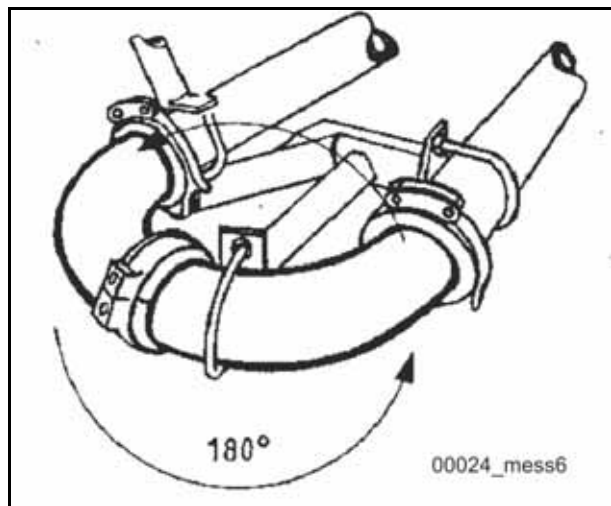

Fig. 346
- Turn pumping pipes and elbows  $180^\circ$  from the inlet side to the outlet side after 50 % of their expected service life (Fig. 346 ).